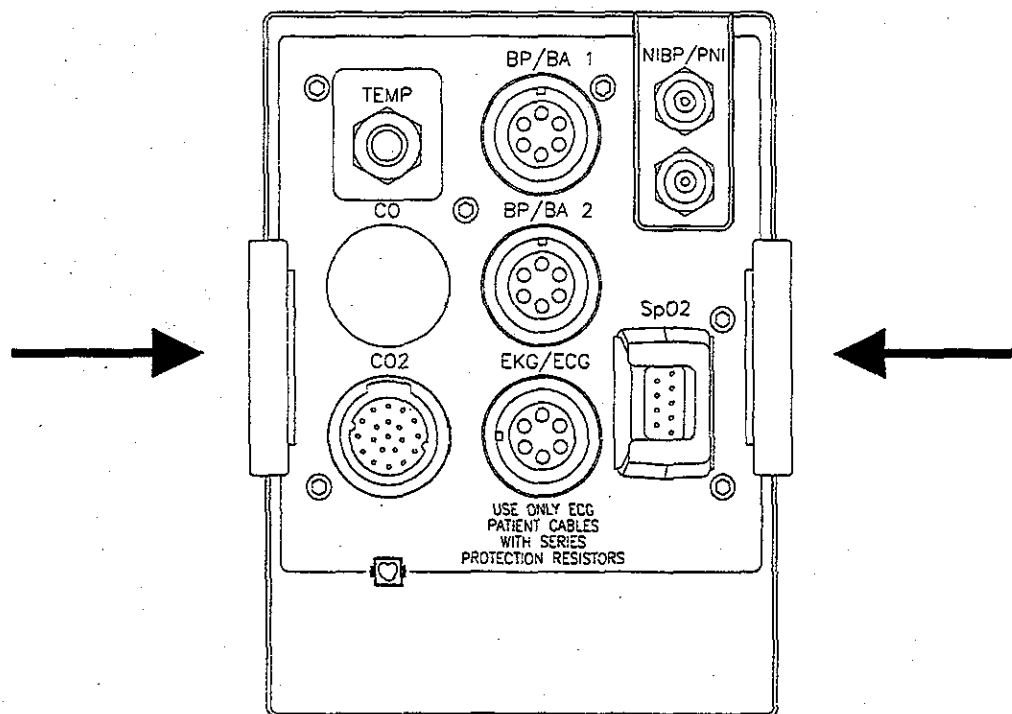

Figure 14-2: Removing the Multiparameter Module
1. Release the Multiparameter Module by squeezing the side handles toward the center of the module (see Figure 14-2, below).